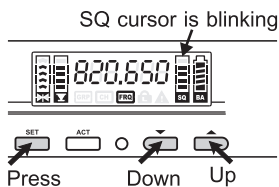

Fig. 15
- (1) Press the 'SET' button until the FRQ cursor blinks. Press ▼ or ▲ button to select group 7 (frequency band dependent).
- (2) Press the 'SET' button again to the desired channel 01~16 (frequency band dependent).
- (3) Press the 'SET' button to the FRQ cursor. Press 'SET' again. The first 3 numbers start blinking to denote it is ready to accept parameter change.
- (4) Press ▼ or ▲ button to move down or up by 1 MHz step.
- (5) Press the 'SET' button during blinking and the last 3 numbers start blinking to denote it is ready to accept parameter change.
- (6) Press ▼ or ▲ button to move down or up by 25 kHz step.
## (E) SQ: SQUELCH Setting. Fig. 15: